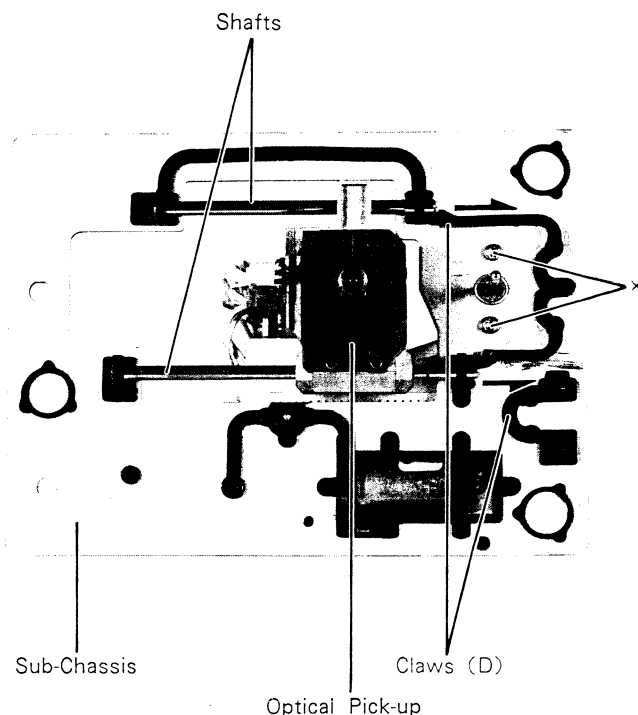

Figure 10
- (2) While pressing two claws (D) in toward pull out two shafts in the arrow direction as shown in Figure 10.
- (2) Remove two screws marked "X" as shown in Figure 10.